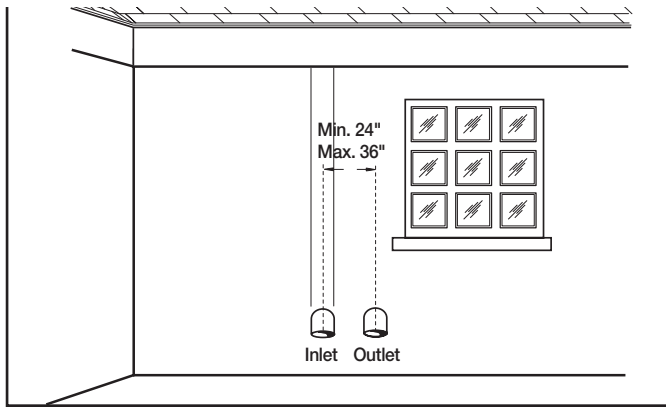

Figure 4
1. Cut two 2 1/2 in. (6.4 cm) diameter holes, 3 1/2 in. (8.9 cm) diameter holes or 6 1/2 in. (16.5 cm) diameter holes for 6 in. (15.2 cm) diameter pipe. Vent terminals must be a minimum of 24 inches (61 cm) and a maximum of 36 inches (91 cm) horizontally apart (See Figure 4).